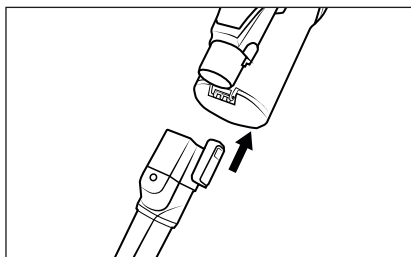

Fig. 14
- ◆ Push the accessory onto the suction pipe **24** or onto the suction opening of the appliance until it clicks into place (see Fig. 14). Make sure that the locking mechanism is in the correct position.